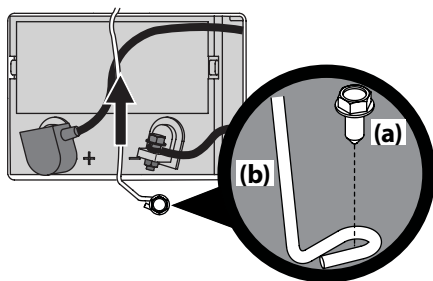

Figure 4-6
1. Remove the hex washer screw (a) securing the battery hold-down bracket (b) to the frame. Then flip the battery hold-down bracket (b) up to free the battery. See Figure 4-6.